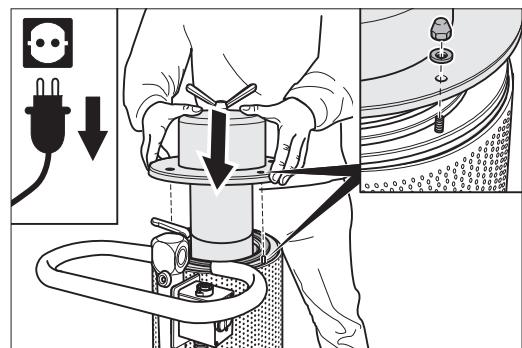

Fig. 31 Replace the cover and **loosely** replace the cap nuts!
- 4 Put the washers on the screws which project out of the cover and put the cap nuts back on. Only place these on **loosely, don't tighten** them (Fig. 31).